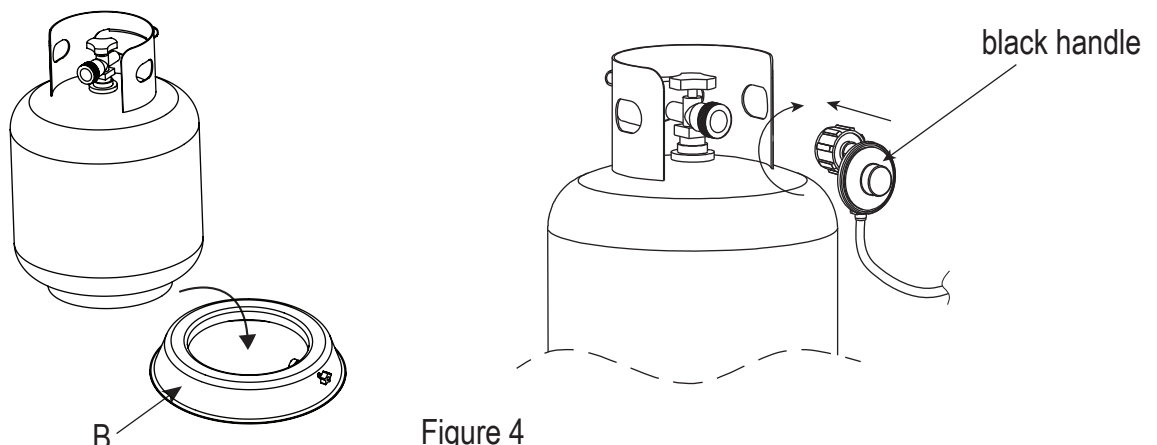

Figure 4
4. Put the gas tank in the tank seat (B), connect the regulator, screw the black handle clockwise to tighten, turn the black handle counterclockwise to remove. The hose must not turn upside. The knob on the control panel is turned all the way to the "OFF" position when the fireplace is NOT in use (see Figure 4).